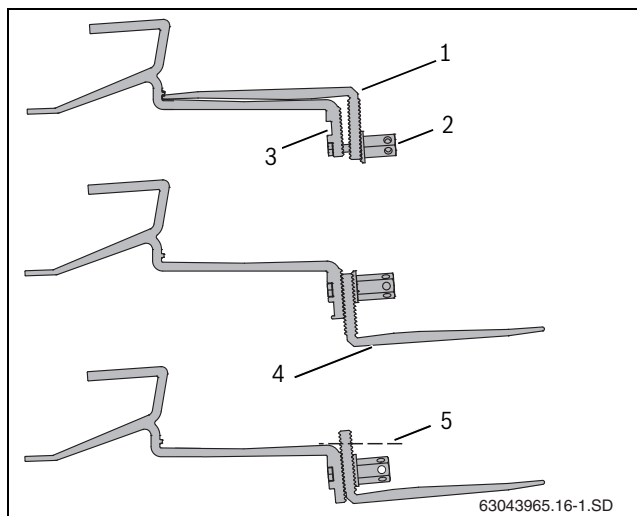

Fig. 13 Fastening roof hooks to rafter
In the case of some roof covers, it may be necessary to underlay the lower part with boards/planks (Fig. 13, [4]) for the roof hook to lie on top of the roof tile.
- Loosen the long hexagon nut (Fig. 13, [2]).
- Insert the screw in the upper hole (Fig. 13, [3]).
- Loosely fasten the lower part of the roof hook (Fig. 13, [1]). Do not tighten the connection yet.